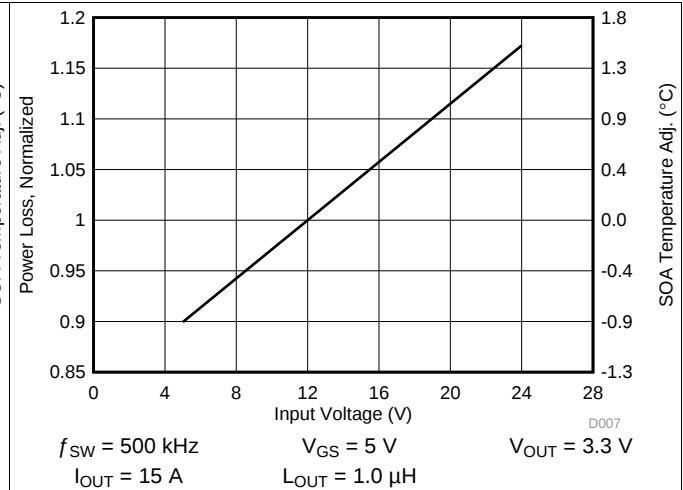

Figure 7. Normalized Power Loss vs Input Voltage
- Normalized Power Loss for input voltage ≈ 1.05 (Figure 7)
- SOA adjustment for input voltage $\approx 0.5^\circ\text{C}$ (Figure 7)